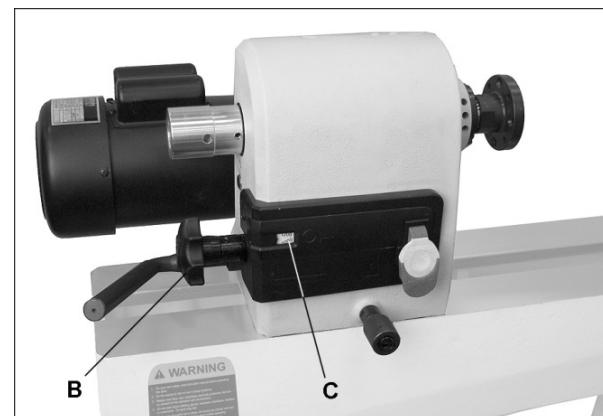

Fig 26
Rotate knob (B, Fig 26) to set speed, which is displayed as RPM (revolutions per minute) in the adjoining window (C).